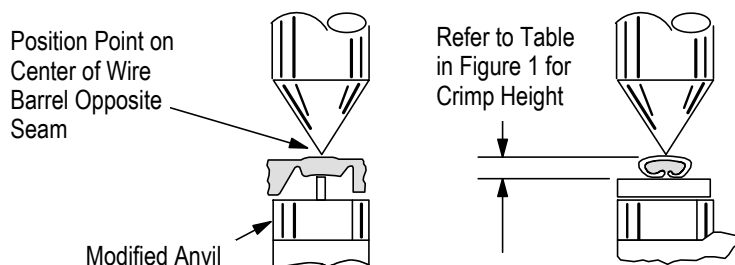

Figure 4
This tool is provided with a crimp adjustment feature. Initially, the crimp height should be verified as specified in Figure 4. Refer to Section 6, Crimp Height Inspection, and Section 7, crimp height Adjustment, to verify crimp height before using the tool to crimp desired contacts.
1. Refer to Figure 4 and select a wire (maximum size) for each crimp section listed.
3. Using a crimp height comparator, measure the wire barrel crimp height as shown in Figure 4. If the crimp height conforms to that shown in the table, the tool is considered dimensionally correct. If not, the tool must be adjusted. Refer to Section 7, CRIMP HEIGHT ADJUSTMENT.
- Deleted table from Figure 4